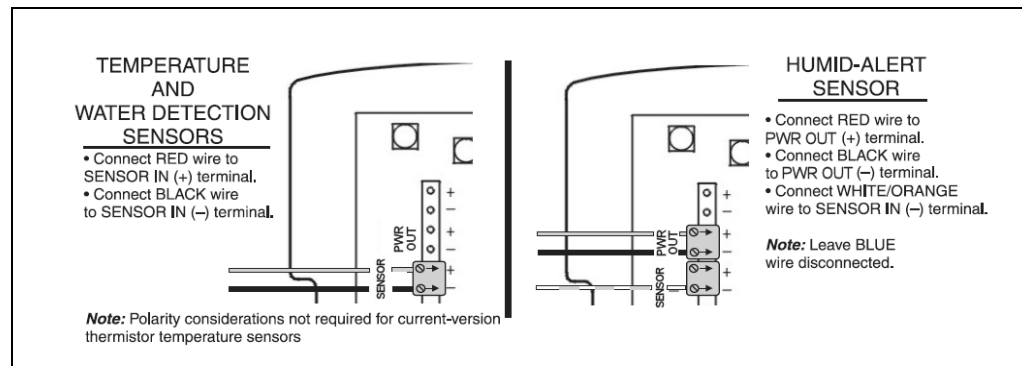

Figure 7. EA200 / EA400 Sensor Connections
3. Using the Terminal Block Adapter included with the sensor, connect the sensor wires to the appropriate SENSOR IN (+) and (-) connector on EA200 / EA400 circuit board header connector as shown in Figure 7. Where applicable, observe proper polarity.